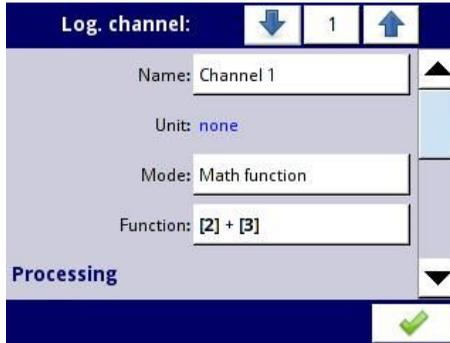

Fig. 7.53. Input channels menu - parameters specific for Math function mode
**MultiCon** has a wide variety of mathematical functions which increase the functionality and the range of the applications of the device. **Fig. 7.53** presents the parameters of the **Input channel** into the **Math function** mode. This mode allows the user to display channel value, process this data in any other logical the channel or it can be the data source for an output to control and set any object.